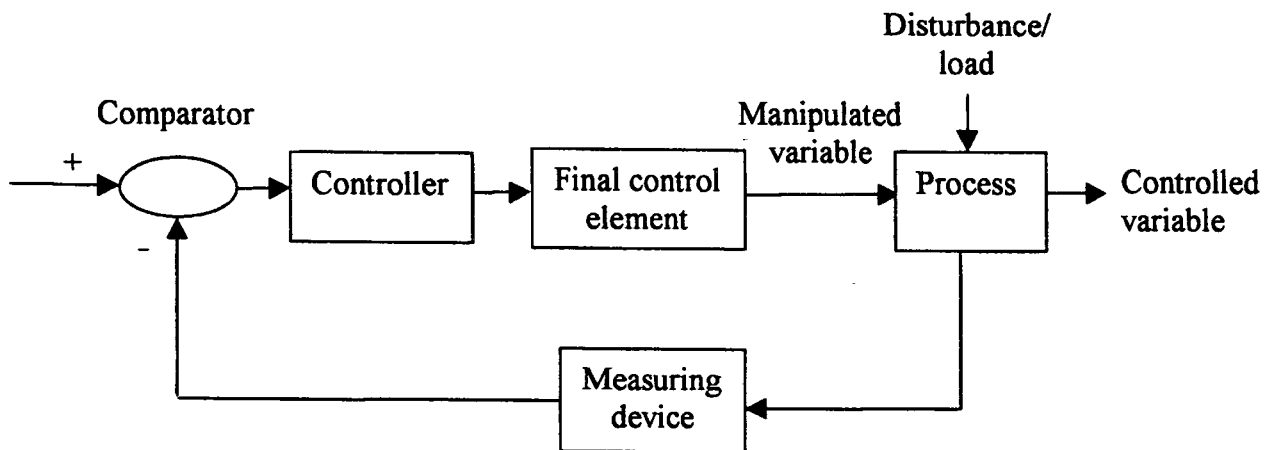

Figure 2
- ii) A generalised feedback control system is shown in figure 2. Describe, briefly, the difference between an open loop response and a closed loop feedback response. [2]
- iv) Using the block diagram shown in figure 2 as an aid, derive the overall closed loop feedback response for set-point and load changes, showing all the open loop input/output relationships. [6]